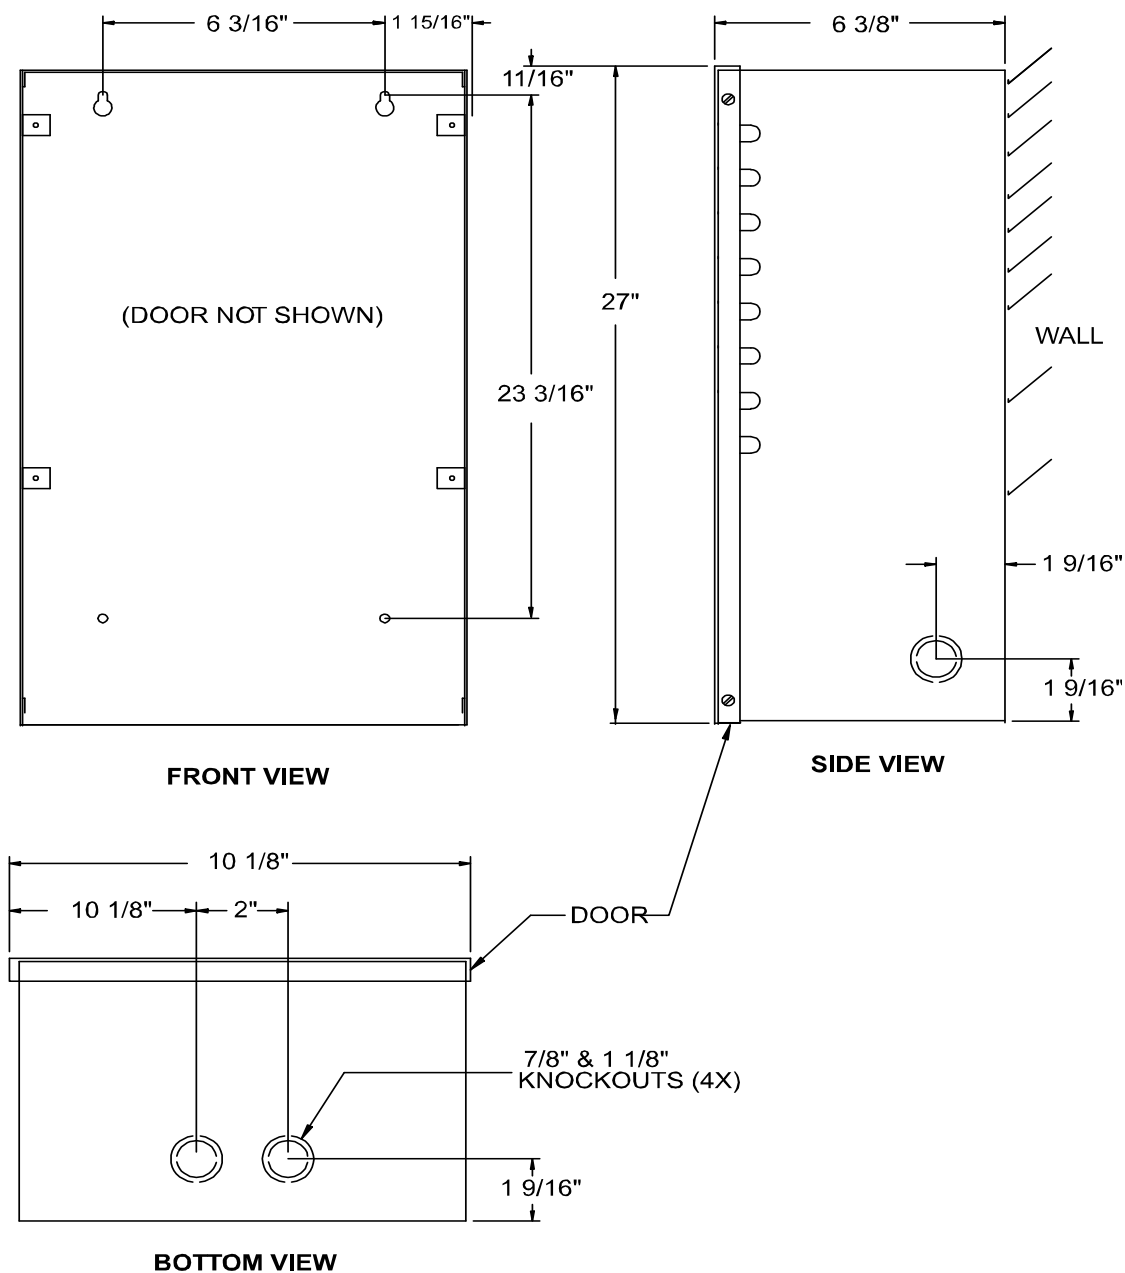

Figure 48. Elevator Relay Cabinet
1. Using the back cover as a template mark the top two mounting hole locations 6 3/16 inches apart as shown in Figure 48.